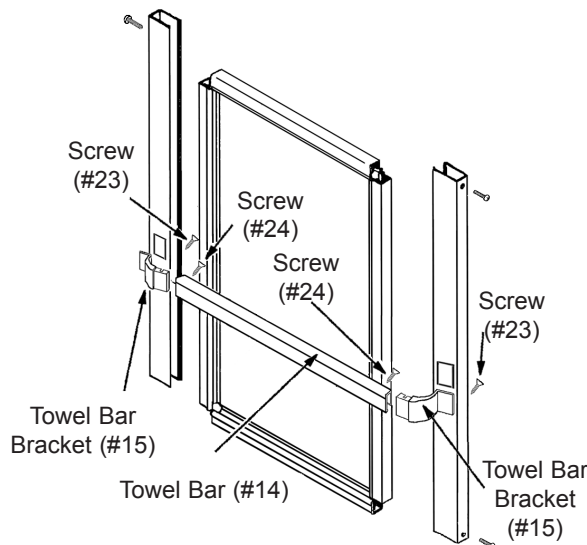

Figure 8
- B. To assemble the Towel Bar, insert the Towel Bar Bracket (#15) into the end of the Towel Bar (#14) as illustrated in Figure 8. Take a #6 x 5/16" FH Type F Screw (#24) and lock the Towel Bar Bracket (#15) into place. Repeat these steps for the other side.
- C. Align the Towel Bar Bracket (#15) with the pre-drilled slot in the door Side Rail (#7) of the Outside Framed Door Panel (#5). Use a #8 x 3/8" FH T/S Type F Screw (#23) to secure the Towel Bar Bracket (#15) to the door Side Rail (#7) of the Outside Framed Door Panel (#5) (See Figure 8). Repeat these same steps for the other side.